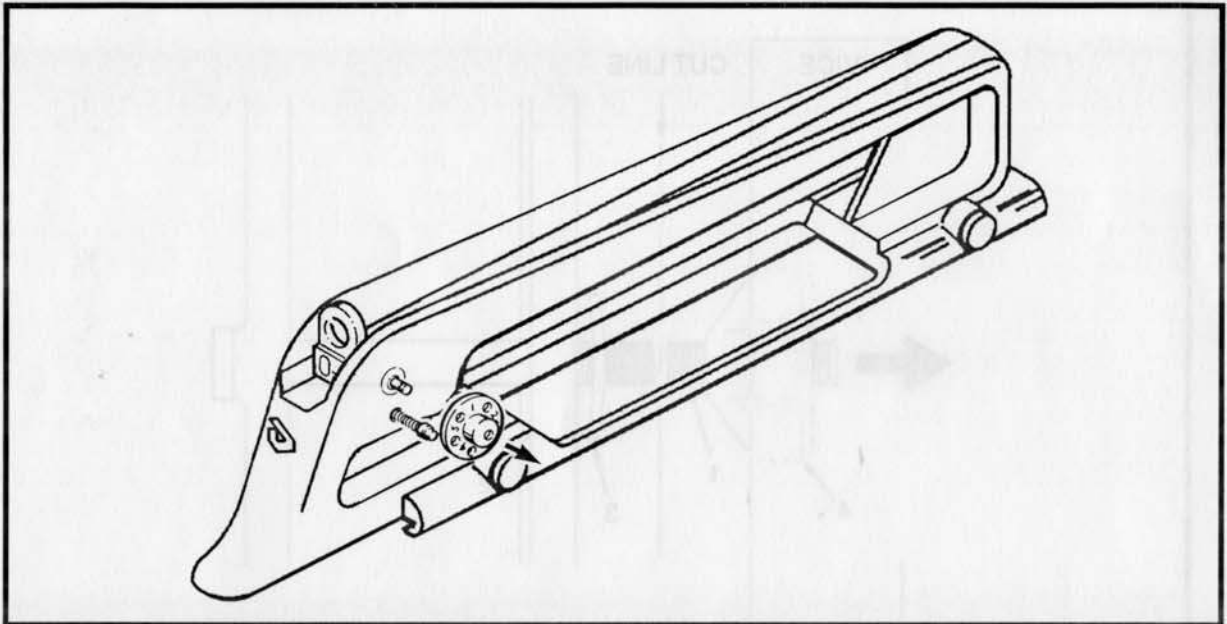

Figure 3-2-25 Removing the Windage Drum
- c. Remove the windage drum, the rear sight detent and rear sight detent spring. See Figure 3-2-25;